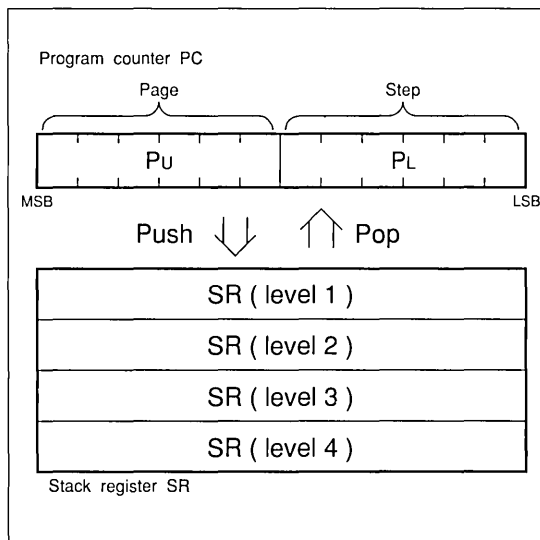

Fig. 8 Program Counter PC and Stack Register SR
A ROM address is specified by the program counter (PC). The PC comprises 12-bit where 6-bit (P_u) are used to specify the page (see Fig. 8) and 6-bit (P_l) are used to specify the step. P_u is a register and P_l is a binary counter.